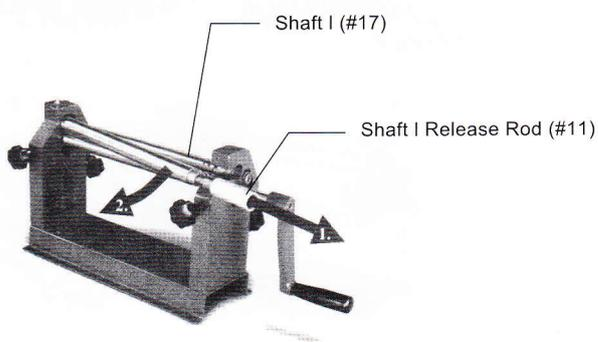

Figure 4-Removing Partial Rolls
Step 4: If you are only performing partial rolls and need to remove the material, slide out the SHAFT1 RELEASE ROD (#11) and pull SHAFT 1 forward. See Figure4.